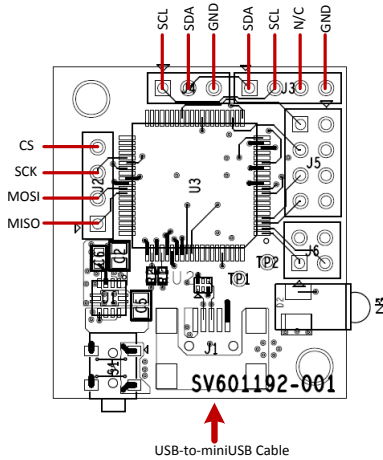

Figure 30. DPS-DONGLE-EVM Connection Diagram
7. Using a USB-to-miniUSB cable, plug the DPS-DONGLE-EVM into the PC. Then, locate the SMBus header pins on the DPS-DONGLE-EVM according to Figure 30.